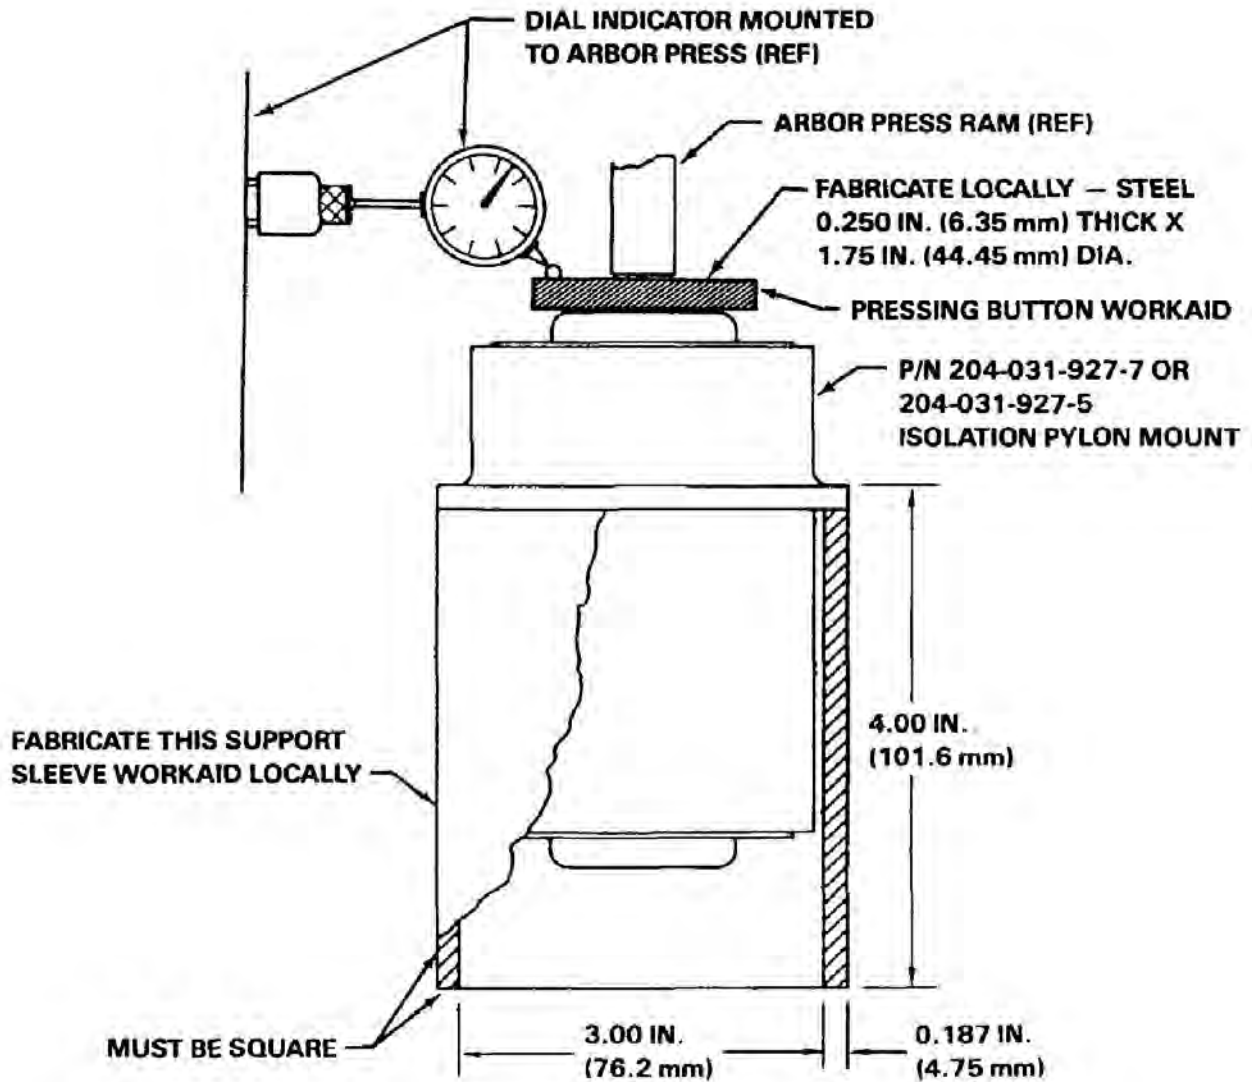

Figure 63-54. Isolation Mount Test Fixture
63.9.2.2.5.1 Fabricate a steel support sleeve, and pressing button workaids, Figure 63-54. Top and bottom of the sleeve must be square in relation to sides so mount will be deflected in vertical plane only.